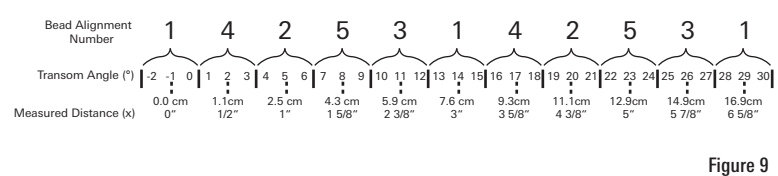
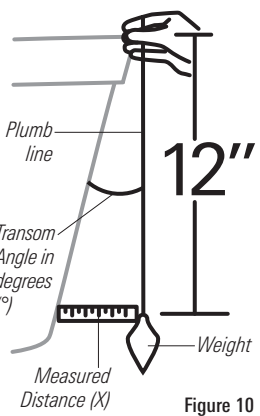

Figure 9
Figure 10
- 1a. If you already know your transom angle, refer to the chart below for the initial position to use to set the ratchets (Figure 9). If your transom is angled at 14 degrees (a common transom angle for many boats) use position 1 for the ratchets. In either case, go to step 2.
- 1b. If you do not know your transom angle, measure it using a plumb line (weighted nylon string or monofilament line) exactly 12 inches long. Hold the top of the plumb line against the top of the transom with your finger, and wait until the line hangs straight down (Figure 10). Using a ruler, measure the distance from the **bottom** of the plumb line to the back of the transom, then use the chart (Figure 9).
**NOTE:** It is important to take your measurement in the location shown in Figure 10, from exactly 12 inches down from the top of the transom.